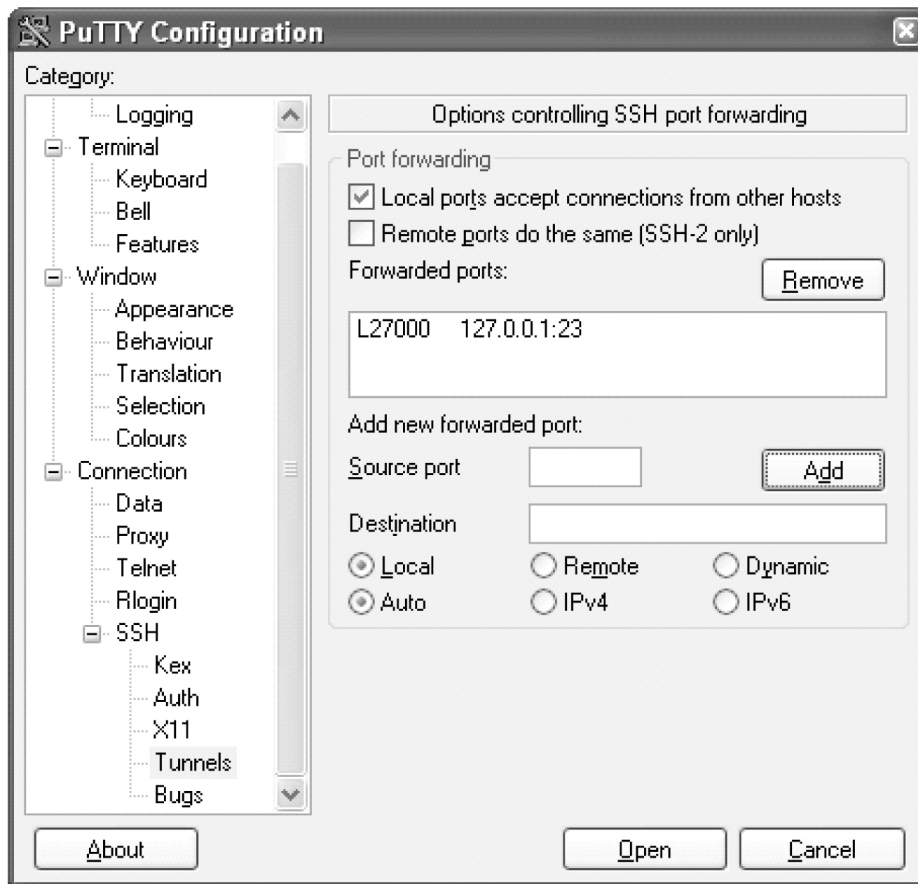

Figure 16: PuTTY Configuration Window - SSH Tunnel/Port Forwarding Completion
The forwarding port (**Source port** value) and the IP address and port of the remote machine (the **Destination** value) appear in the **Forwarded ports:** box and the **Source port** and **Destination** boxes are empty. See Figure 16: PuTTY Configuration Window - SSH Tunnel/Port Forwarding Completion.
18. Initiate a telnet connection to the local host at the forwarded port configured in step 14 (see Figure 16: PuTTY Configuration Window - SSH Tunnel/Port Forwarding Completion).
At the prompt, enter the `telnet` command with the IP address and Source port value shown in Figure 16: PuTTY Configuration Window - SSH Tunnel/Port Forwarding Completion. For this example, enter the `telnet` command with the IP address 127.0.0.1 and the source port value 27000, as shown in Figure 20: Telnet Connection to Local Host Forwarded Port. Press the **Enter** key.